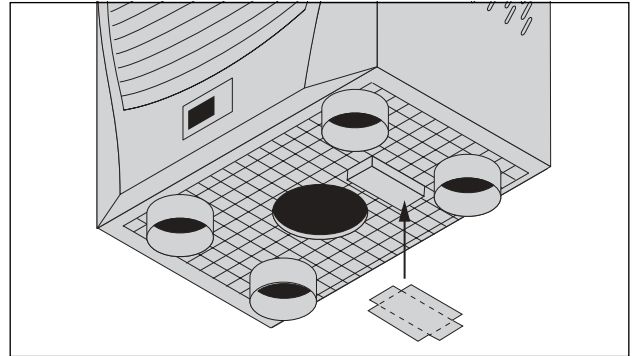

Fig. 8: Apply extra seal for condensate tray
- Stick the supplied additional seal onto the condensate tray from below (cf. Fig. 8). Bend the seal upwards at the perforated points and stick down the seal.